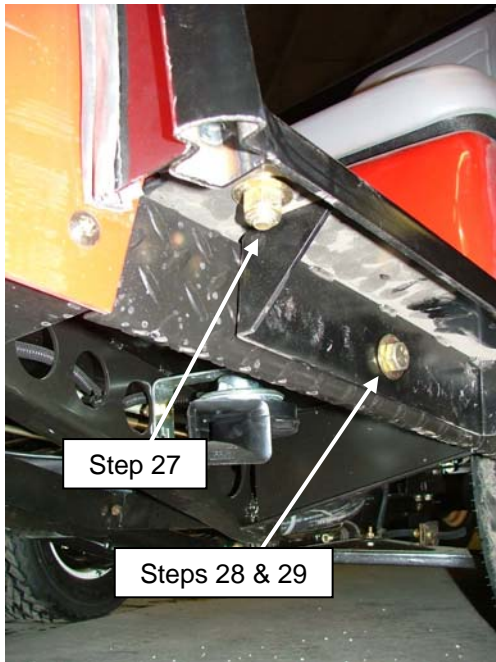

Figure 8
27. Center the cab and attach to front mounts using (1) ½-13unc x 1.25" long bolts, (2) ½" flat washers and (1) ½-13unc nylock nuts, each side. See Figures 8 and 9.
28. Using the supplied template, the mount part, transfer-drill (3) 17/32" diameter holes from each front mount through the operator's platform deck of the workman. See Figure 8 and 9. Figures are shown with step 29 completed.
29. Install (3) ½-13unc x 1.25" long bolts, (6) ½" flat washers and (3) ½-13unc nylock nuts, each front mount.
32. Install upper rear ROPS mount brackets with edge trim, onto the back of cab using (4) 3/8-16unc x 1.00" long hex head cap screws, (8) 3/8" flat washers and (4) 3/8-16unc nylock nuts.